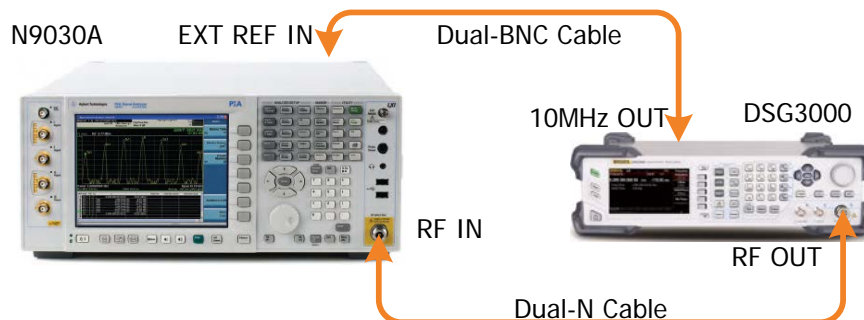

Figure 2-11 Pulse Modulation Test Connection Diagram
1. Synchronize the DSG3000 and signal analyzer. Connect the RF output terminal of the DSG3000 with the RF input terminal of the signal analyzer as shown in Figure 2-11.